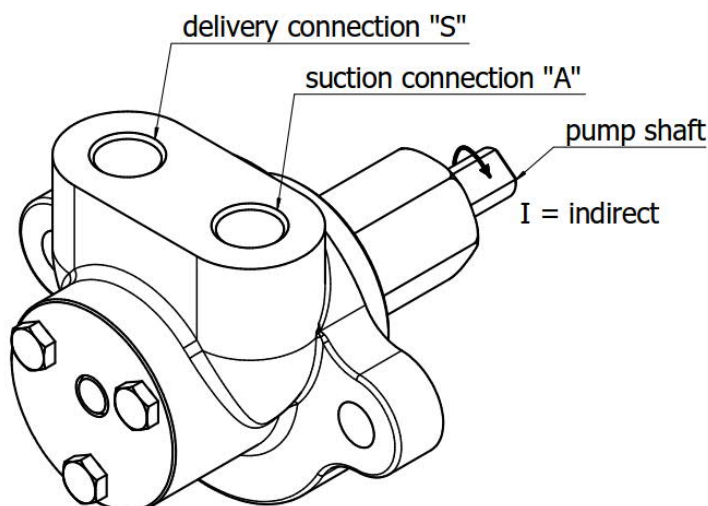

Fig. 1. (Excmple for direction of rotation „I“)
- The suction connection (see Fig. 1) of the pump is filled with oil. Then the suction line is connected to thread connection „A“.
- The pressure/delivery line connect to thread connection „S“. (Fig. 1)